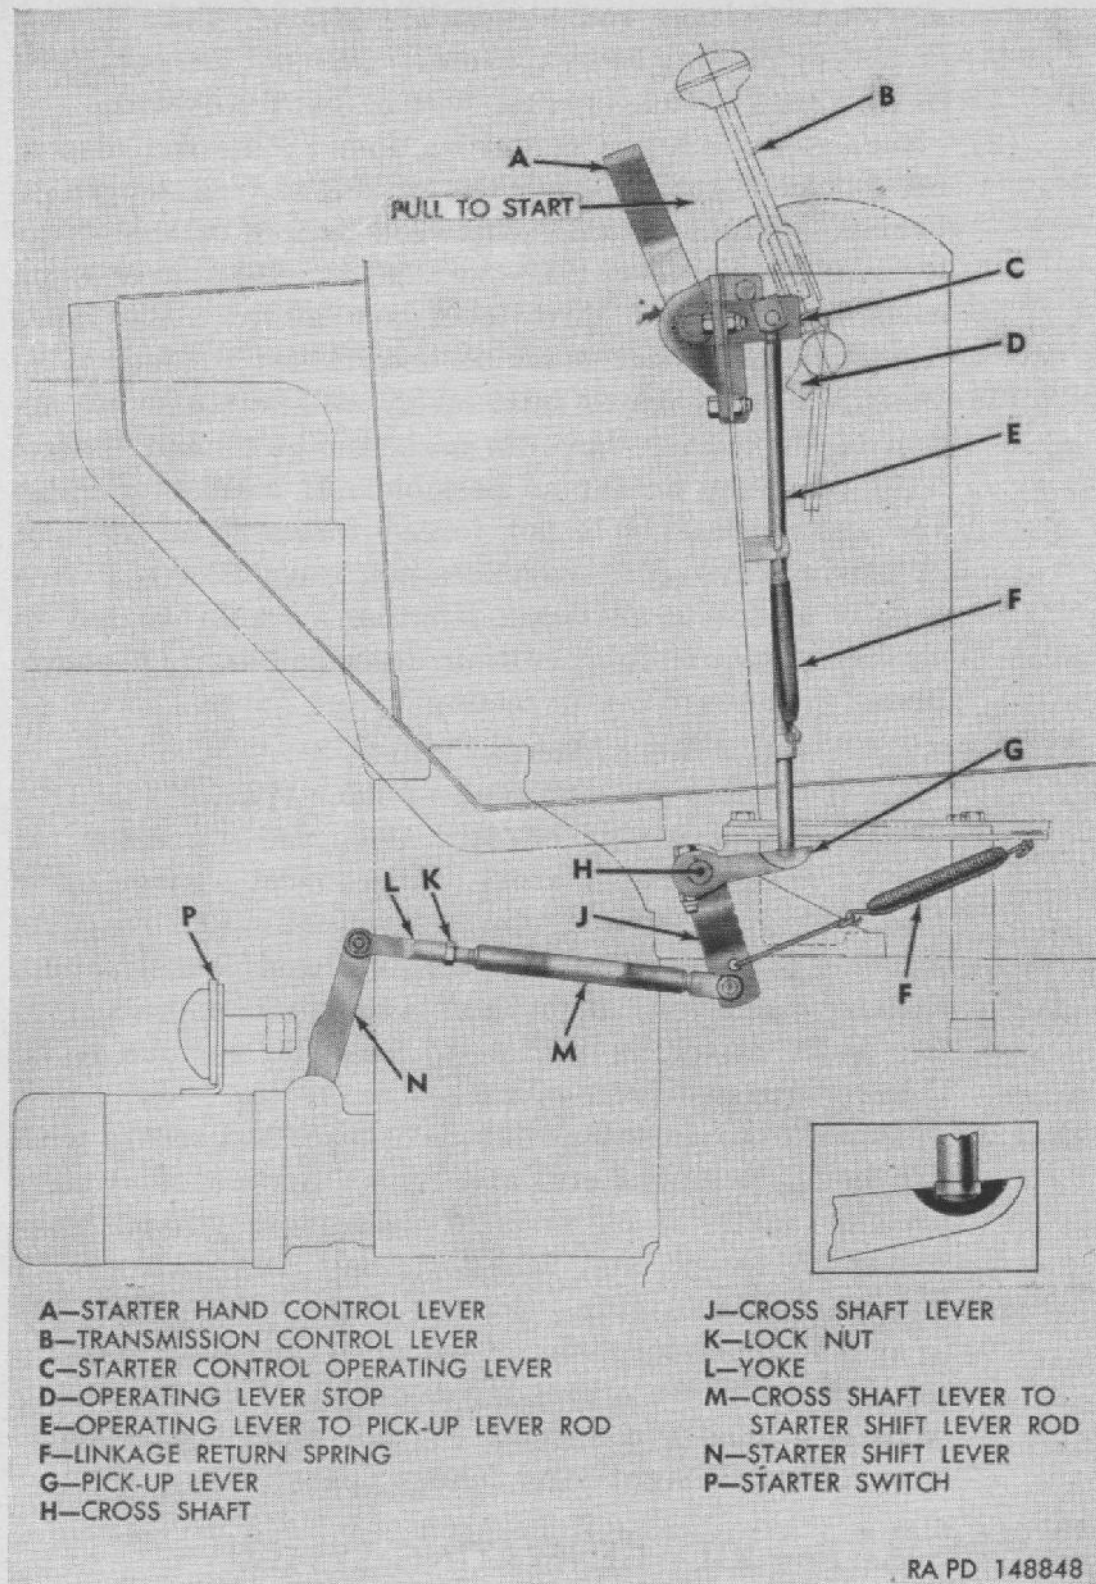

Figure 75. Starter control linkage.
c. **STARTER CONTROL LINKAGE** (fig. 75). Starter hand control lever and shaft is mounted on right-hand side of transmission control tower. Starter control operating lever is attached to end of hand control lever shaft. Operating lever-to-pick-up-lever rod attached to operating lever extends down to cross shaft pick-up lever. Cross shaft, extending across to right-hand side of transmission, has a cross-shaft lever attached to right-hand end. A cross-shaft-lever-to-starter-shift-lever rod attaches cross shaft lever to starter shift lever.
d. STARTER LINKAGE ADJUSTMENT (fig. 75).
- (1) Starter linkage should be adjusted so that shift lever will cause starter switch contacts to close without bending switch bracket forward when hand control lever is pulled rearward to its limit. Adjustment is made by lengthening or shortening cross-shaft-lever-to-